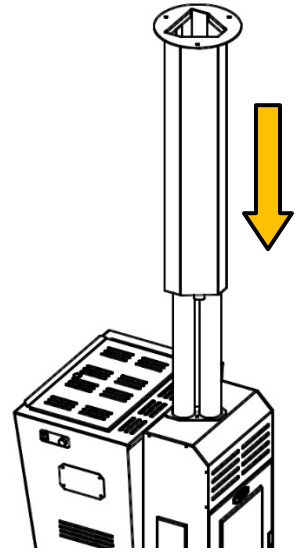

Fig. 3
- 2 Fit the net on the pipes and slide it to the bottom (*Fig. 3*)